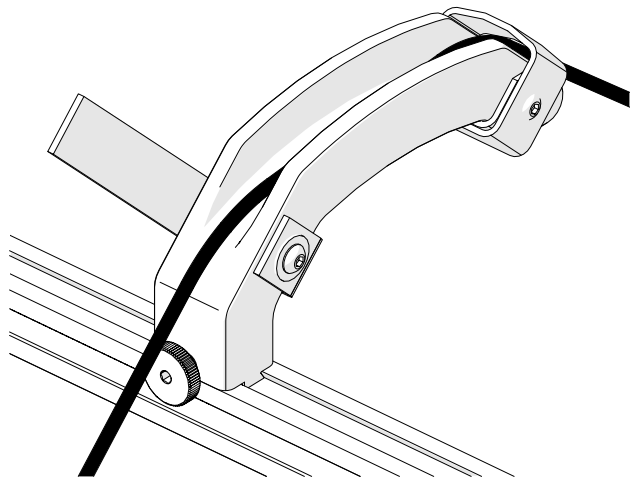

Fig. 16 - Handle provides cable management
4. Open velcro straps and place cables and hoses in the handle (Fig. 16). Reattach the velcro straps to secure cables and hoses within the handle.